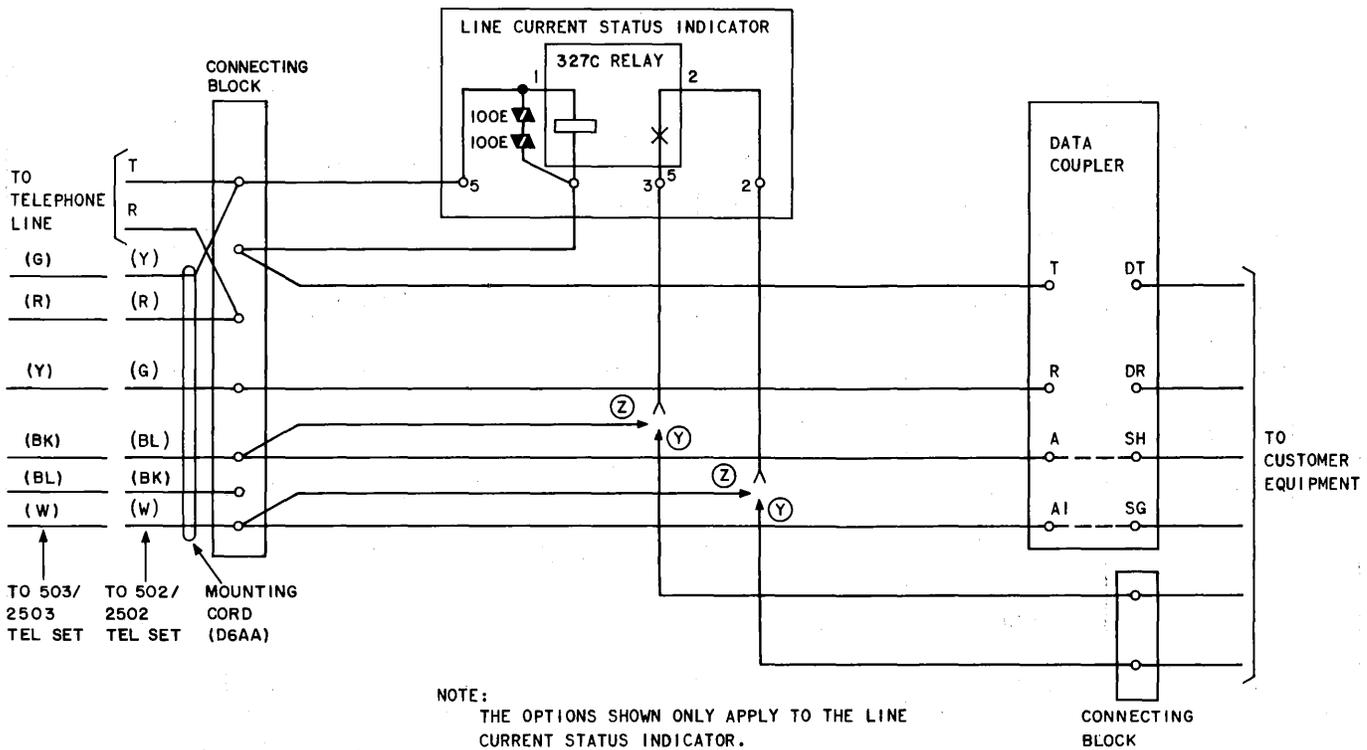

Fig. 11—Line Current Status Indicator Connection Diagram
3.08 The LCSI (Fig. 11) must be made locally and consists of a 317A-type dry reed relay and two varistors in a 74B-49 connecting block measuring 2.75 inches wide, 4 inches long, and 1.6 inches high. The relay is in series with the coupler and gives a contact closure at the customer interface when at least 20 mA of line current is flowing through the relay and coupler. The two varistors are used to provide a low-impedance transmission path to the coupler.
- (3) Apply adhesive (Eastman 910 or equivalent) in the area to be occupied by the 327C relay.
- (4) Place relay on base plate, topside down.
- (5) Remove and discard the lower screws from terminal strip eyelets in positions 2, 3, 4, and 5.
- (6) Wire the unit in accordance with Fig. 11.